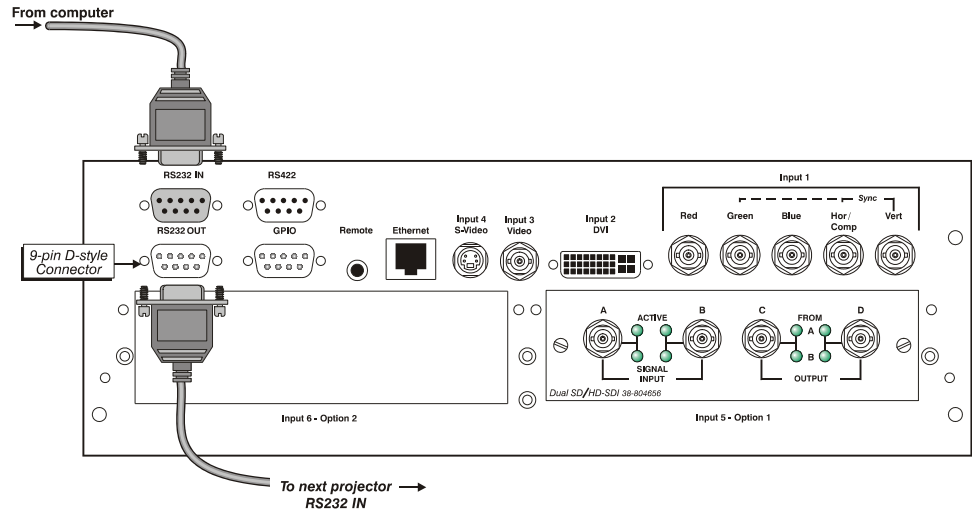

Figure 2.32. RS232 Serial Link Loop-Through at First Projector
► **RS232 NETWORK:** To control multiple projectors with a computer/controller having an RS232 interface, first set all projectors to the same baud rate as the controller, then chain the projectors together by connecting the **RS232 OUT** connector of the first projector (already connected to the computer/controller) to the **RS232 IN** connector of the next projector in the chain. Continue connecting projectors in this manner until you’ve reached the last projector in the chain, so that only the last projector has an unused **RS232 OUT** port. See Figure 2.32.